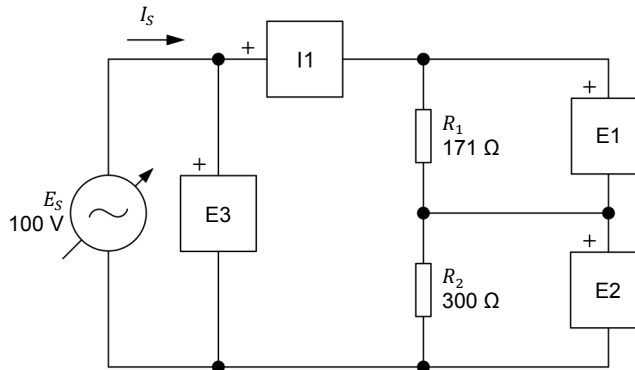

Figure 1-9. AC circuit containing two resistors connected in series.
25. Set up the circuit shown in Figure 1-9. To obtain the resistor arrangement of Figure 1-9, make the necessary connections and switch settings on the **Resistive Load** (refer to Appendix C if necessary). Use inputs **I1**, **E1**, **E2**, and **E3** of the **Data Acquisition and Control Interface** to measure the source current I_S , voltage E_{R1} , voltage E_{R2} , and source voltage E_S , respectively.